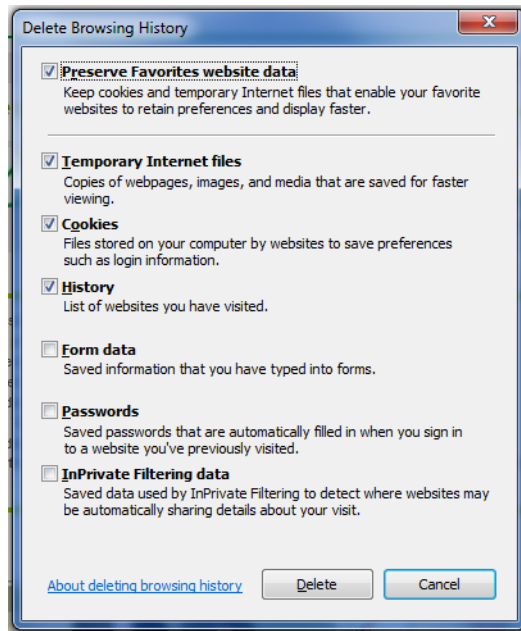
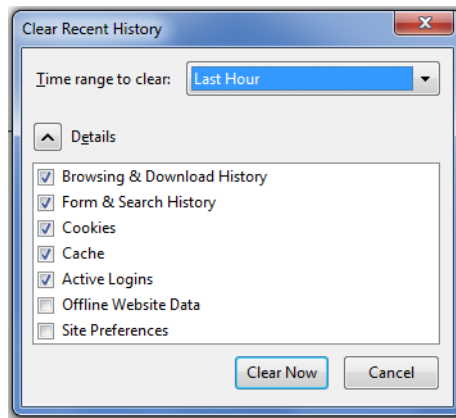

Figure 3-3 Internet Explorer Delete Browsing History
Figure 3-4 Firefox Clear Recent History
2. In the dialog box that opens (varies for each web browser), select an option to clear temporary Internet files or “cache”. See examples in Figure 3-3 and Figure 3-4 on page 3-44.